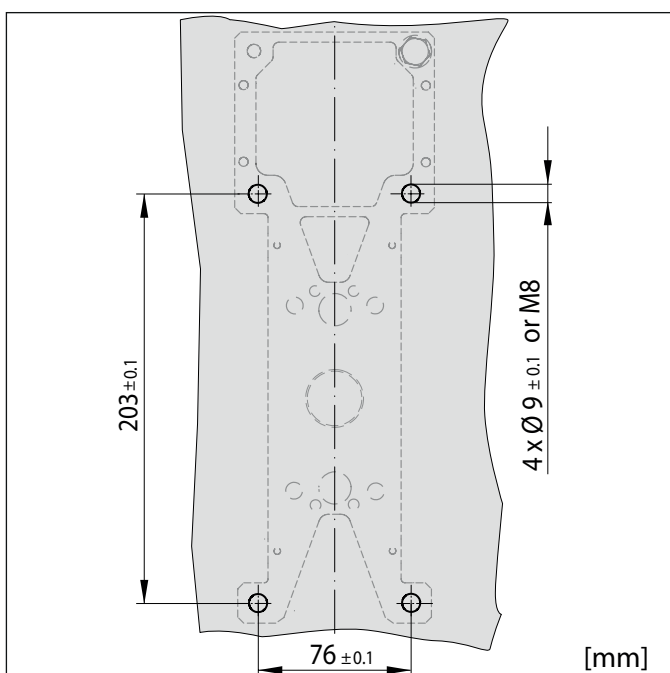
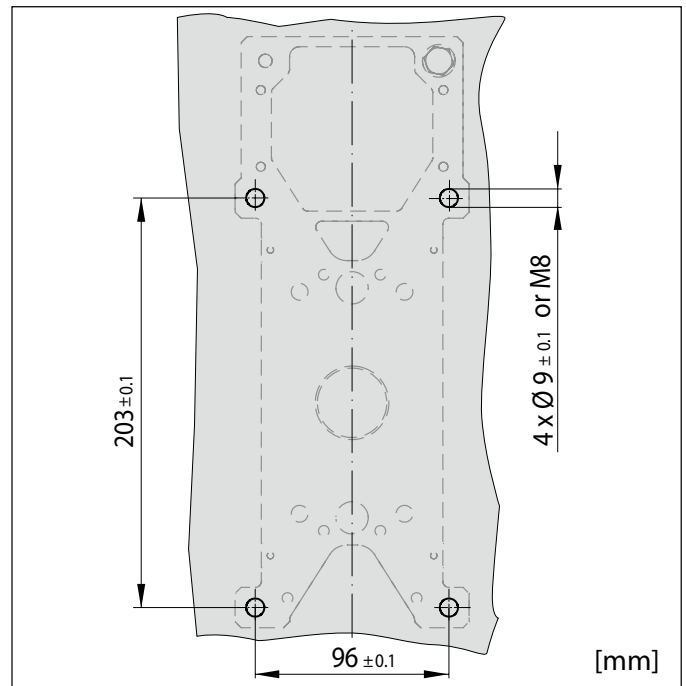

Fig. 9: Dimensions and arrangement of the mounting holes for devices with 600 A (not to scale)
Fig. 10: Dimensions and arrangement of the mounting holes for devices with 1,200 A and 2,000 A (not to scale)
- ▶ A suitable mounting frame or plate with 4 mounting holes must be provided for fastening of the contactor. See *Fig. 9* and *Fig. 10*.
Depending on the contactor type the dimensions and arrangements of the mounting holes are shown in **Fig. 9** and **Fig. 10**.